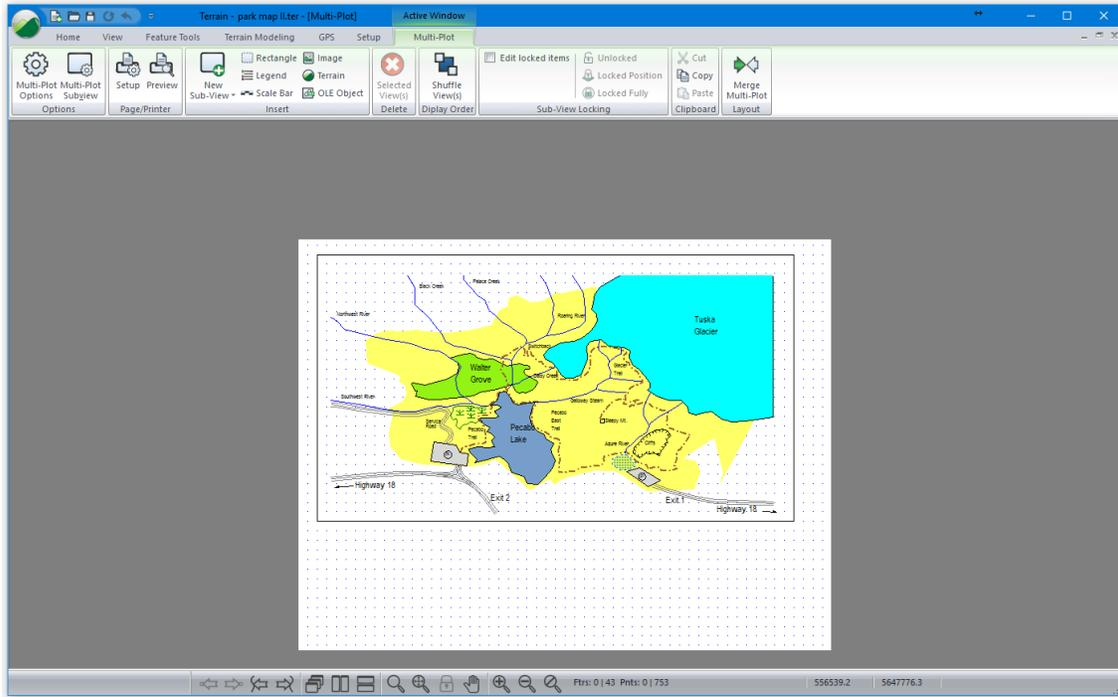

Figure 3-30: Multi-Plot Plan Sub-View of plan1.ter
6. Resize and reposition the Plan Sub-View until it appears approximately in the top 2/3 of the output sheet (see Figure 3-30).